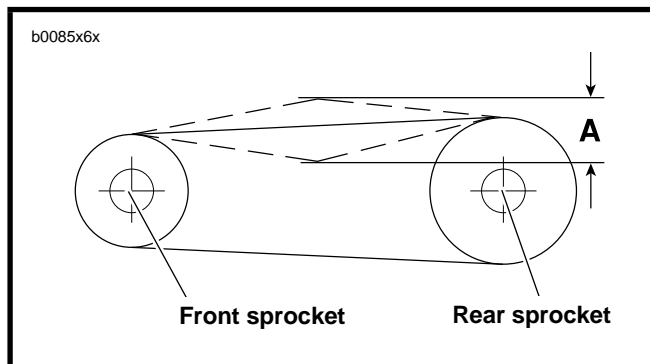

Figure 1-25. Measuring Primary Chain Tension
3. See Figure 1-25. Check primary chain tension by measuring vertical freeplay (measuring midway between sprockets) several times, each time with primary chain moved (by rotating engine) to a different position on sprockets.